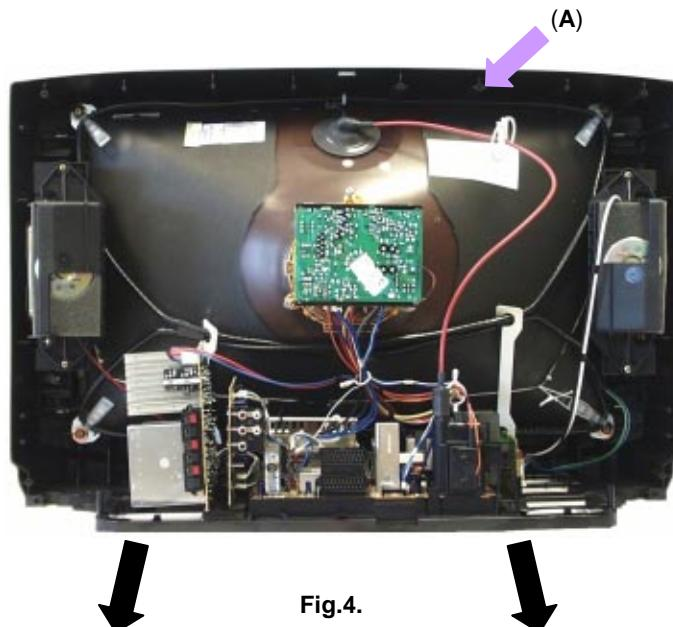

Fig.4.
1. Remove the bead clamper from the mains lead and affix, using back cover screw, into top right-hand cabinet rib (A), shown in **Fig.4**.
2. Hold and lift the rear of the E-PCB chassis and gently pull the chassis toward you, as shown in **Fig.4**.